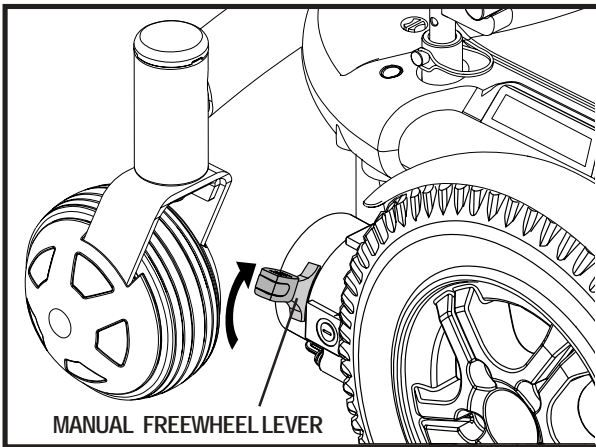

Figure 8a. Drive Mode (Drive Engaged)
Your power chair has a manual freewheel lever on each motor. Manual freewheel levers enable you to disengage the drive motors and maneuver the chair manually. There are two different types of manual freewheel levers that your power chair may be equipped with based on the drive motor configuration. See figures 8a, 8b, 9a, and 9b.
2. Pull up both manual freewheel levers to engage the motors (drive mode). See figures 8a and 8b.